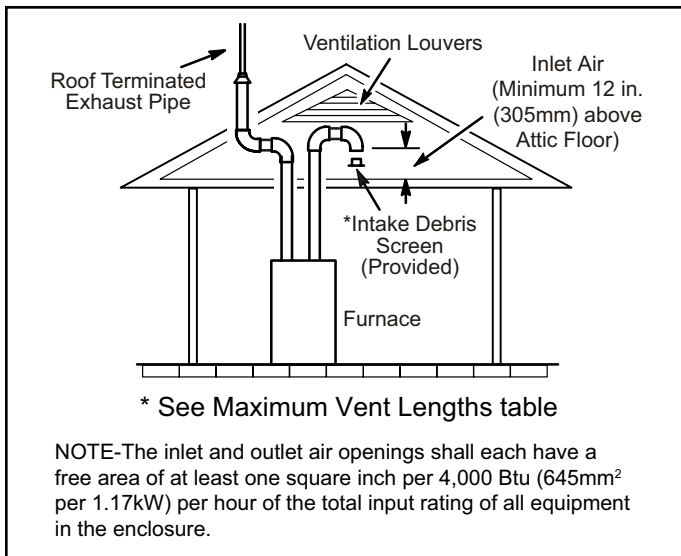
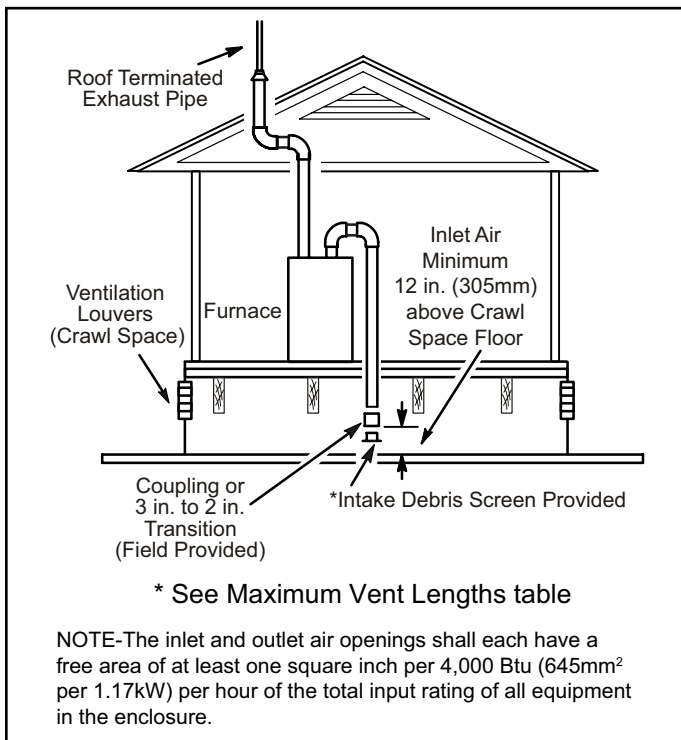

Figure 27. Equipment in Confined Space (Inlet Air from Ventilated Attic and Outlet Air to Outside)
Figure 28. Equipment in Confined Space (Inlet Air from Ventilated Crawlspace and Outlet Air to Outside)
2. If intake air is drawn from a ventilated attic (Figure 27) or ventilated crawlspace (Figure 28) the exhaust vent length must not exceed those listed in Table 13. If 3" diameter pipe is used, reduce to 2" diameter pipe at the termination point to accommodate the debris screen.